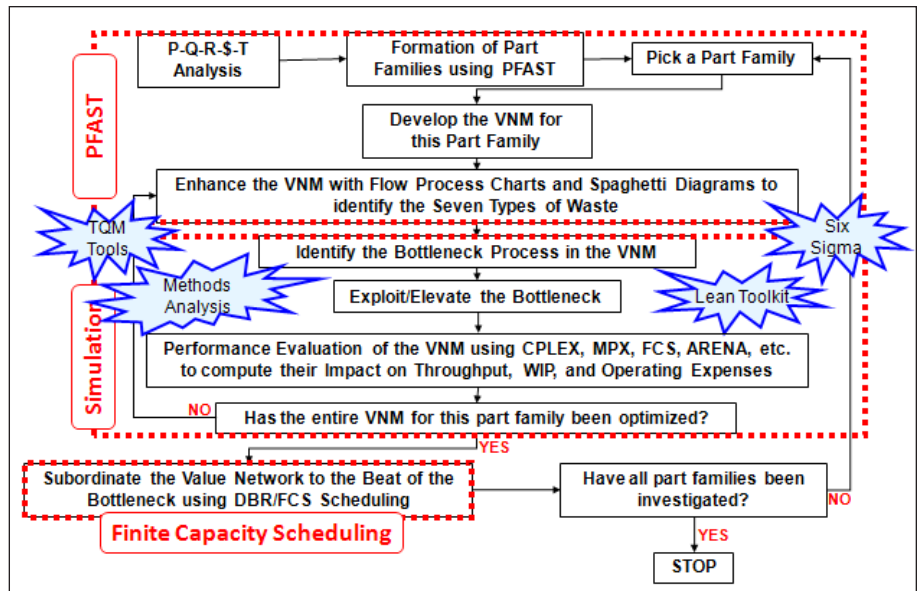

Figure 2 Comprehensive Approach for Implementing JobshopLean.
The real challenge is to implement JobshopLean in a comprehensive manner, unlike the quick-start approach. Figure 2 presents a flowchart for a comprehensive approach for implementing lean in job shops. At the core of this iterative approach is the expectation that (1) a job shop will utilize production flow analysis and/or group technology to identify the stable part families
This section briefly describes some of the key steps in the comprehensive approach for implementing lean in a job shop (Fig. 2). Product mix segmentation is the first step. The method used is PQR\$T analysis (P=products, Q=demand, T=time over which the demand was recorded, R=routings, \$=sales). Segmentation helps the job shop to focus on a manageably large portion of its entire product mix that accounts for at least 80 percent of the total quantity of parts that were shipped and 80 percent of total earnings.